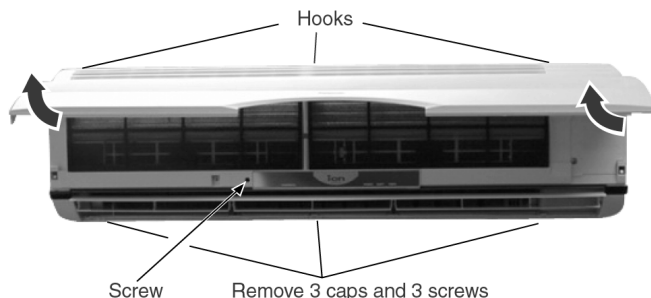

Fig. 1
- Open the Intake Grille and remove the screw at the front of the Front Grille. (Fig. 1).
- Remove the 3 caps and 3 screws at the bottom of the Front Grille. (Fig. 1)
- Remove the Front Grille by releasing the 3 hooks at the top of the Front Grille. (Fig. 1)